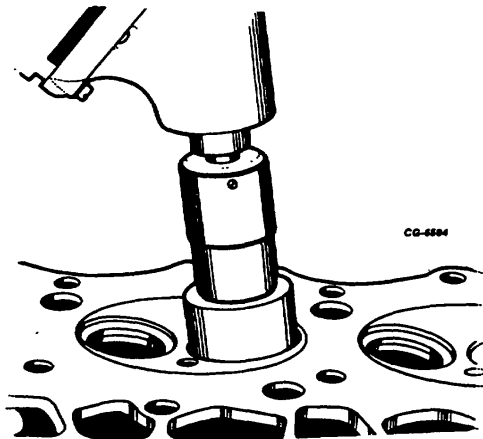

Figure 42. Grinding Valve Seat
20. To insure a good compression - tight fit with valves, reface valve seats with precision equipment such as the SE-1631 or SE-1804 valve seat grinder (Figure 42). Grind seats to specified angle and seat width (See SPECIFICATIONS)